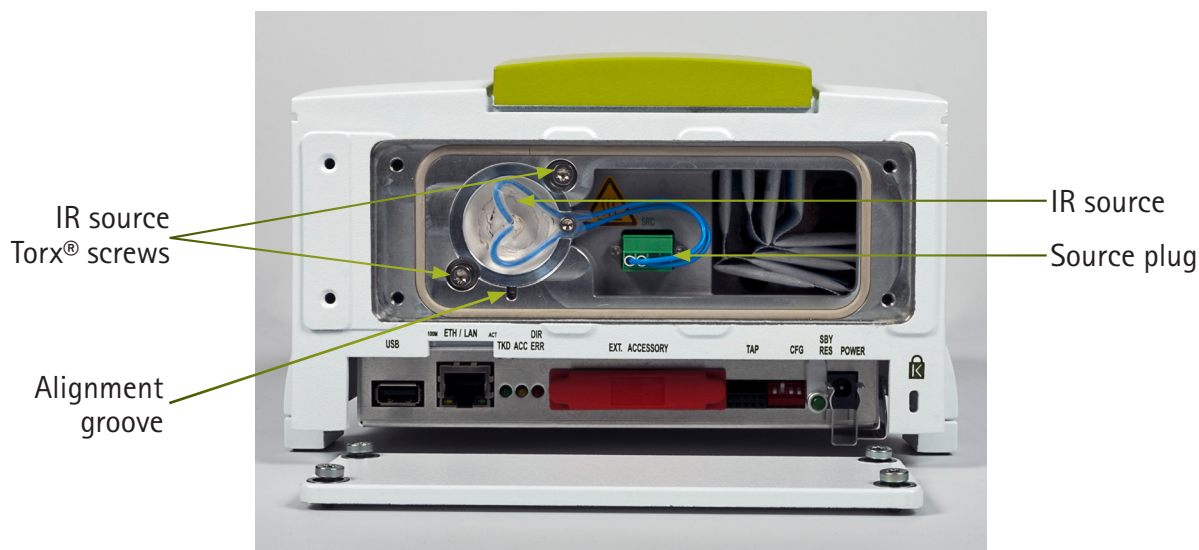

Figure 20. Removing the IR source
4. Loosen the two mounting screws on the IR source (Figure 20) with the Torx® screw driver.
5. Disconnect the green source plug (Figure 20).